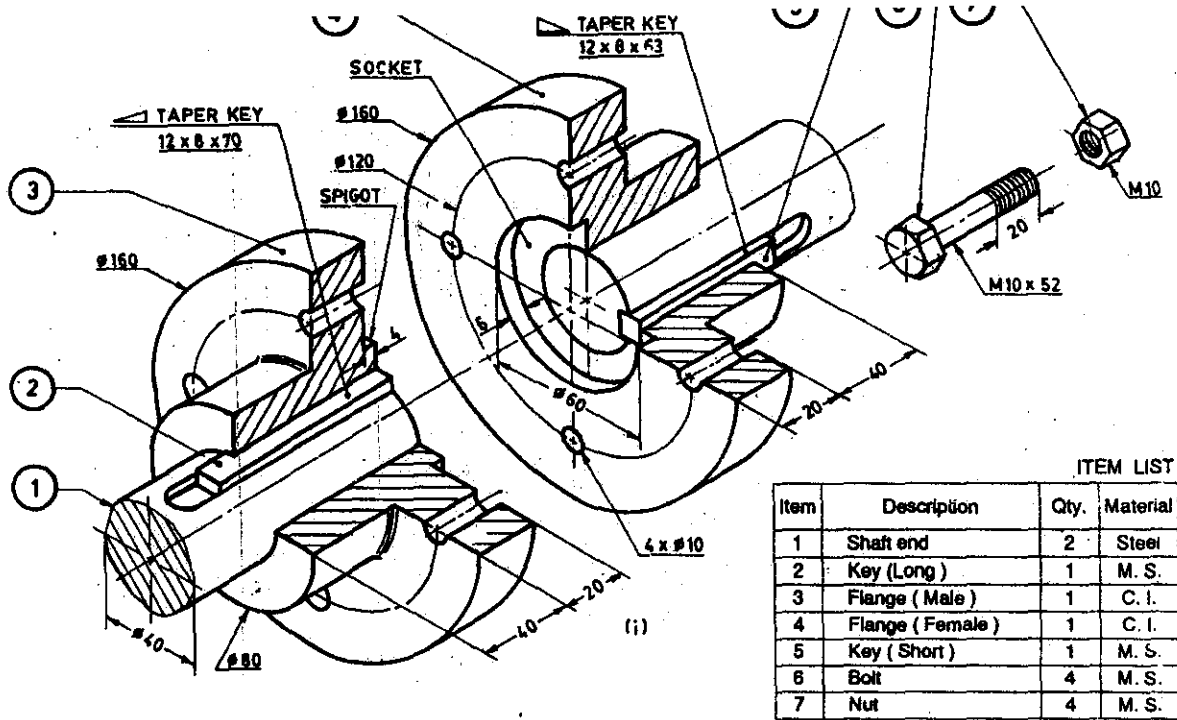

Figure 1
- Assume that the bolt has a chamfered end. (20)
- II. Sketch two types of detachable foundation bolts. (20)
- III. An isometric view of a Flanged Coupling is shown in the Figure 1. Draw the top half sectional elevation of the coupling. Also add an end view looking from the bolt head size. (30)